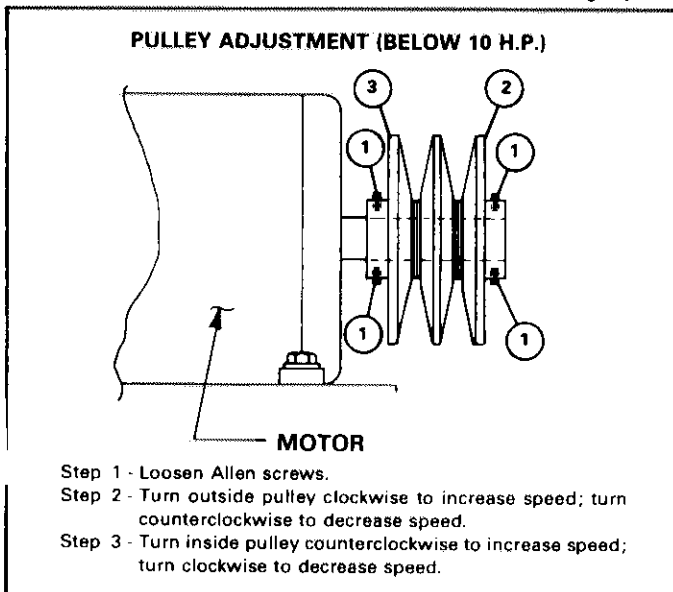

FIGURE 87
- 2 - Adjust blower drive to the speed (RPM) as instructed in Figure 87 or replace the pulley, whichever is necessary. 10 H.P. and 15 H.P. motors use fixed sheaves which must be replaced to change speed.